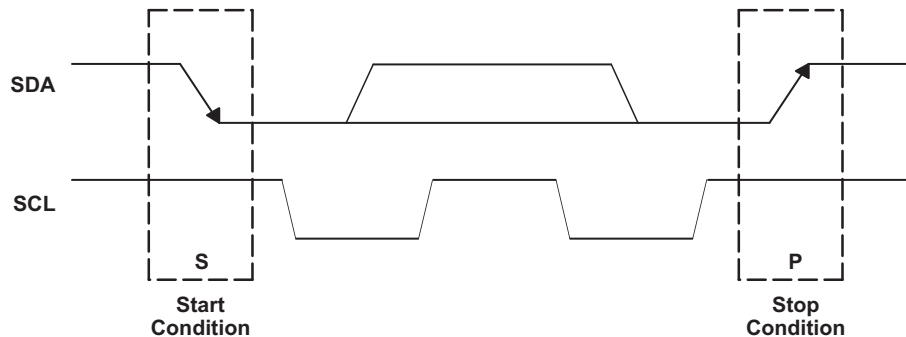

Figure 9. I²C Start and Stop Conditions
The basic I²C start and stop access cycles are shown in Figure 9.
- The *master* initiates data transfer by generating a *start condition*. The *start condition* exist when a high-to-low transition occurs on the SDA line while SCL is high, as shown in Figure 9. All I²C-compatible devices should recognize a *start condition*.
- To signal the end of the data transfer, the master generates a *stop condition* by pulling the SDA line from low to high while the SCL line is high (see Figure 9). This releases the bus and stops the communication link with the addressed slave. All I²C-compatible devices must recognize the *stop condition*. Upon the receipt of a stop condition, all devices know that the bus is released, and they wait for a *start condition* followed by a matching address.